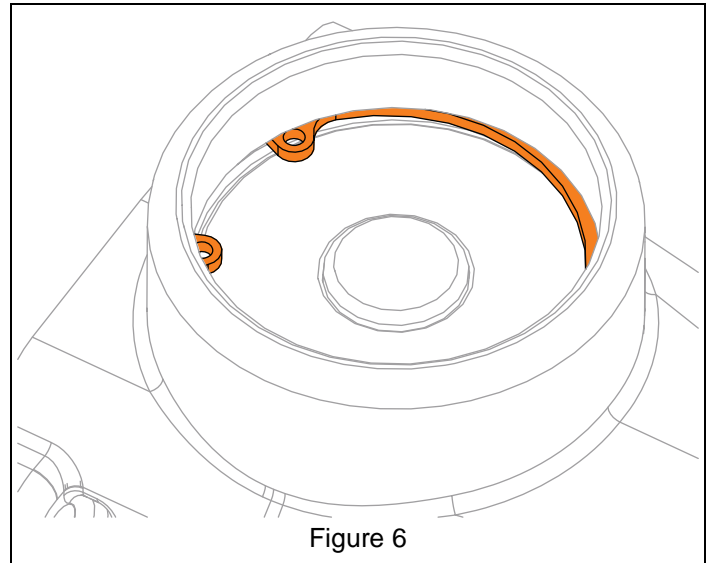

Figure 6
10. With a snap ring pliers, remove retaining ring. See Figure 6.